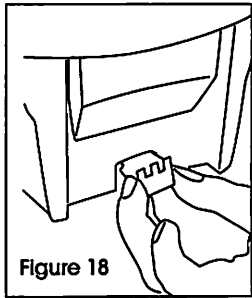

Figure 18
- Re-install the latch piece in the bottom of dispenser with the **SLOTTED SIDE AWAY** from the wall and toward the front of the dispenser. Push the latch piece into the dispenser until it snaps into place. (See Figure 18)